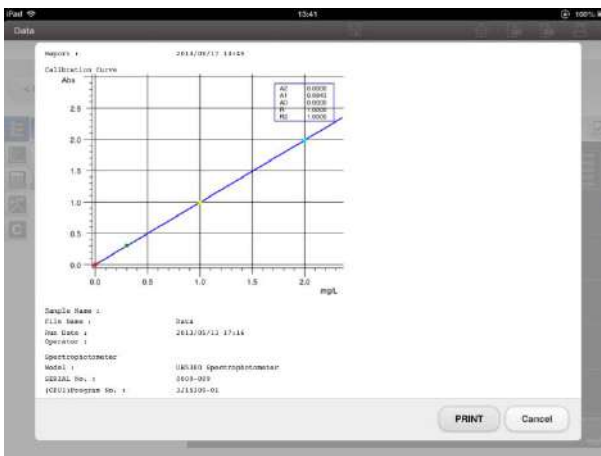

Fig. 4-26 Print Preview Window
- (3) Print preview (Fig. 4-26) will be shown.